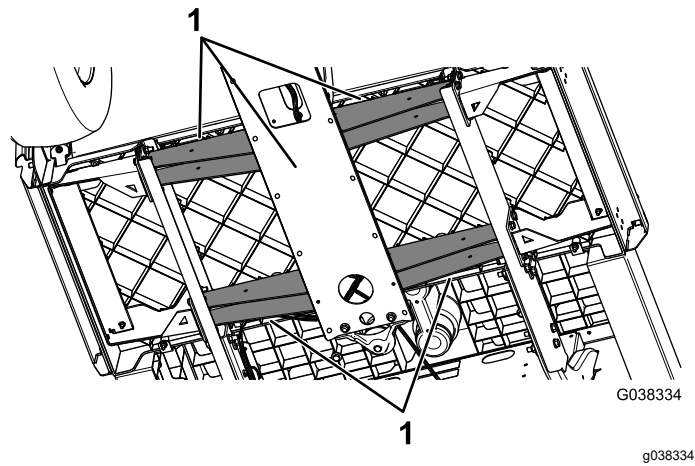

Figure 3
2. Use a floor jack under the frame to support the front of the machine (Figure 3).